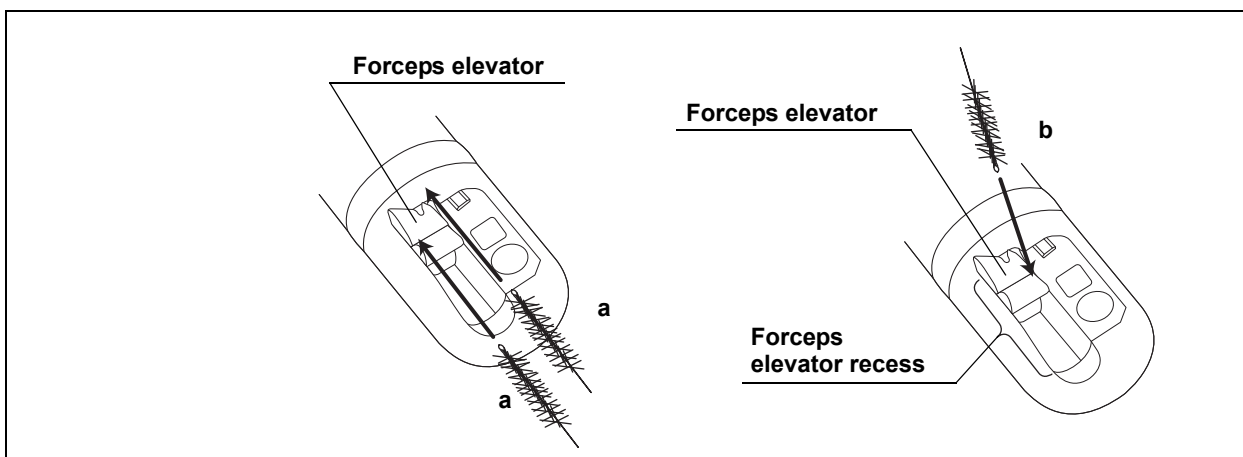

Figure 5.17
- b) Insert the brush into the forceps elevator recess along the back of the forceps elevator until the distal end of the brush touches the bottom of the forceps elevator recess and pull the brush out of the forceps elevator recess (see Figure 5.17).